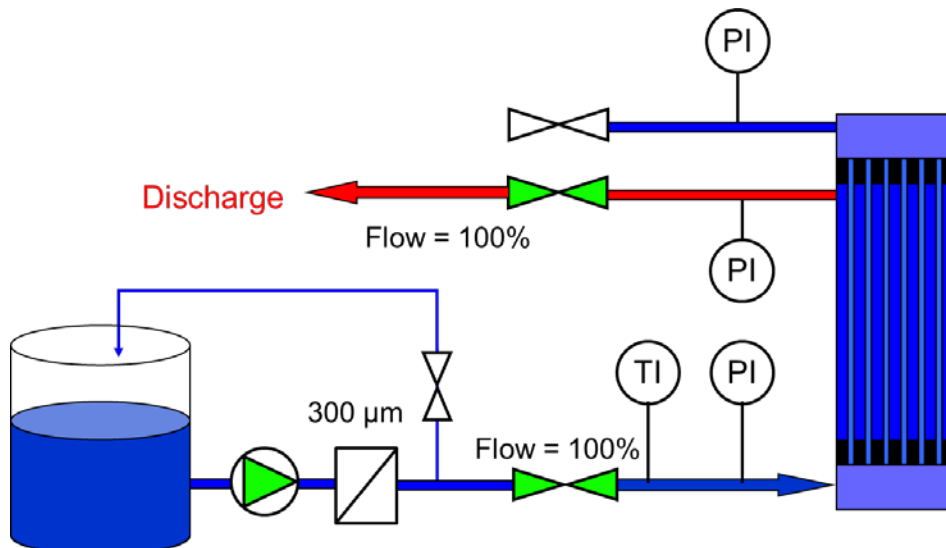

Figure 6-6: Rinsing out the chemicals on the filtrate side
- Once the rinsing of the feed side has been completed, the filtrate side is rinsed out by opening the filtration valve and closing the top feed side valve (Figure 6-6).